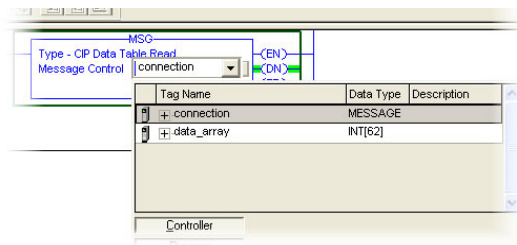

Figure 58: MSG Instruction Tag Assignment
- a) Edit the “Message Control” field on the MSG instruction to use the previously-created “connection” tag. Refer to Figure 58.